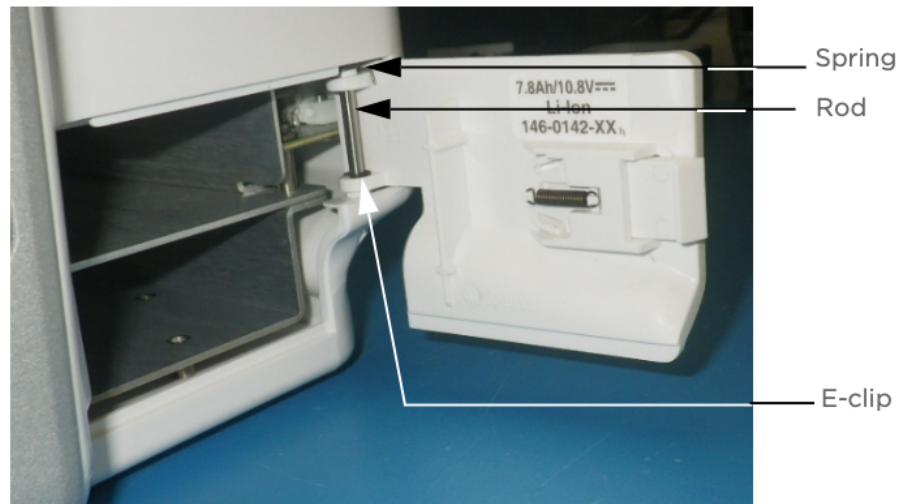

Figure 4-16 Battery Door
- 2 Remove E-clip. Refer to Figure 4-16.
- 3 Slide the rod down through the door and rear enclosure. Refer to Figure 4-16.